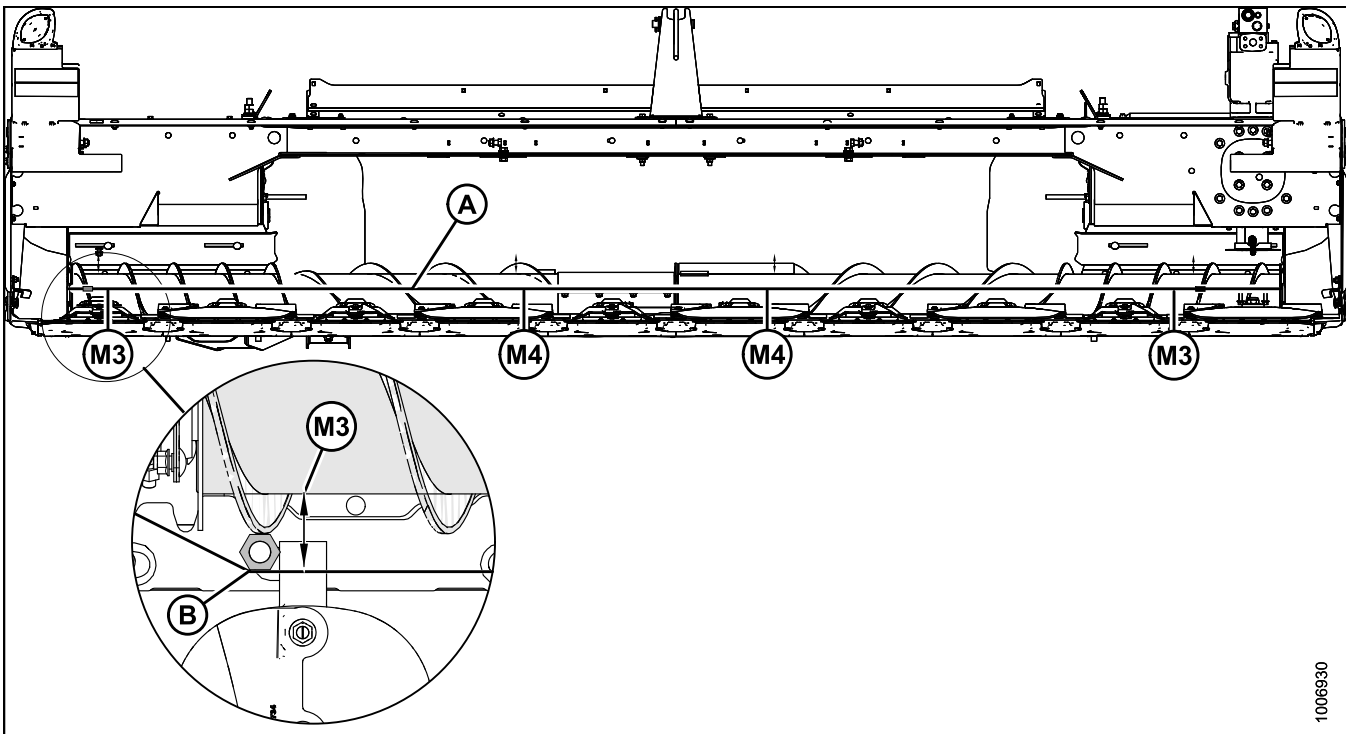

Figure 3.19: Fore/Aft Alignment String Routing and Measurement Points
6. Measure from the auger tube to the string (B) at the two locations (M3 and M4) shown in Figure 3.19: Fore/Aft Alignment String Routing and Measurement Points, page 14. The difference should be less than 5/32 in. (4 mm).